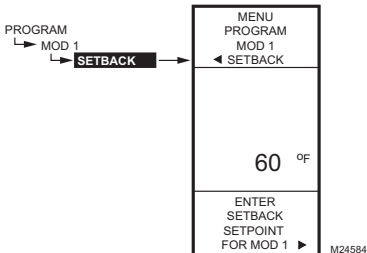

Fig. 61. Program - Setback.
- To program the Setback temperature without Reset, see Fig. 61 on page 27.